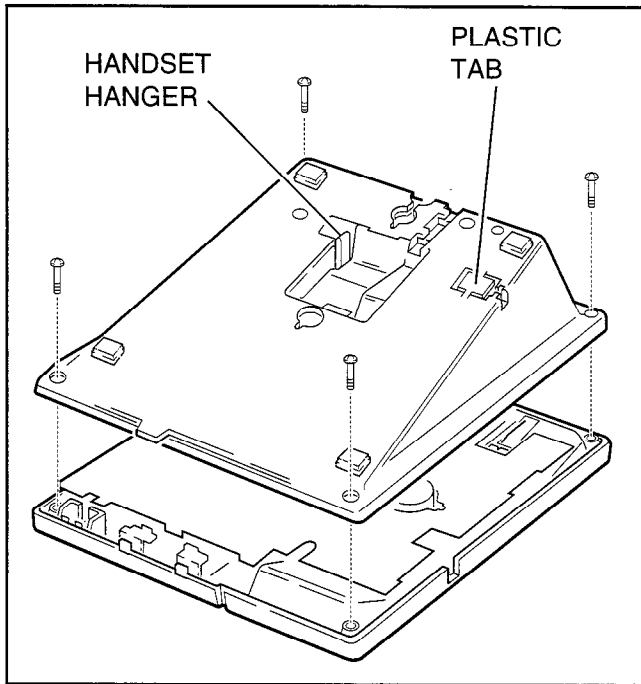
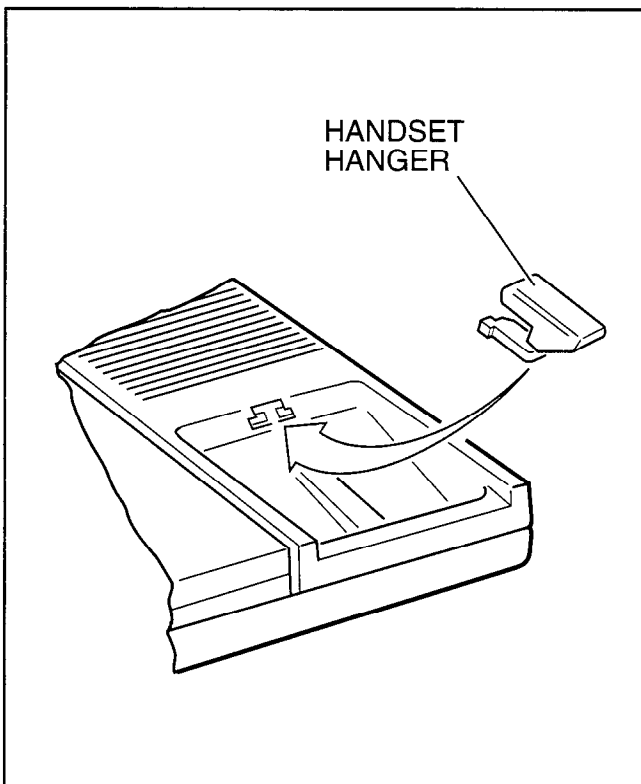

FIGURE 6-1
FIGURE 6-2
- 1) Loosen the captive screws, and remove the telephone base (Figure 6-1).
- 2) Using a suitable cutter, remove the handset hanger from the base (Figure 6-1). Insert the handset hanger in the slot provided on the front of the telephone (Figure 6-2). The hanger fits in the notch on the handset cradle.
- 1) Loosen the four captive screws securing the digital telephone base and remove it (Figure 6-1).
- 1) Loosen the four captive screws securing the telephone base (Figure 6-1) and remove the base.
- 1) Loosen the four captive screws securing the telephone base (Figure 6-1), and remove the base.
- 2) Using a screwdriver or other suitable tool, remove the plastic tab located on the back of the base (Figure 6-1); the HHEU modular connector for the headset will be accessed through this opening.